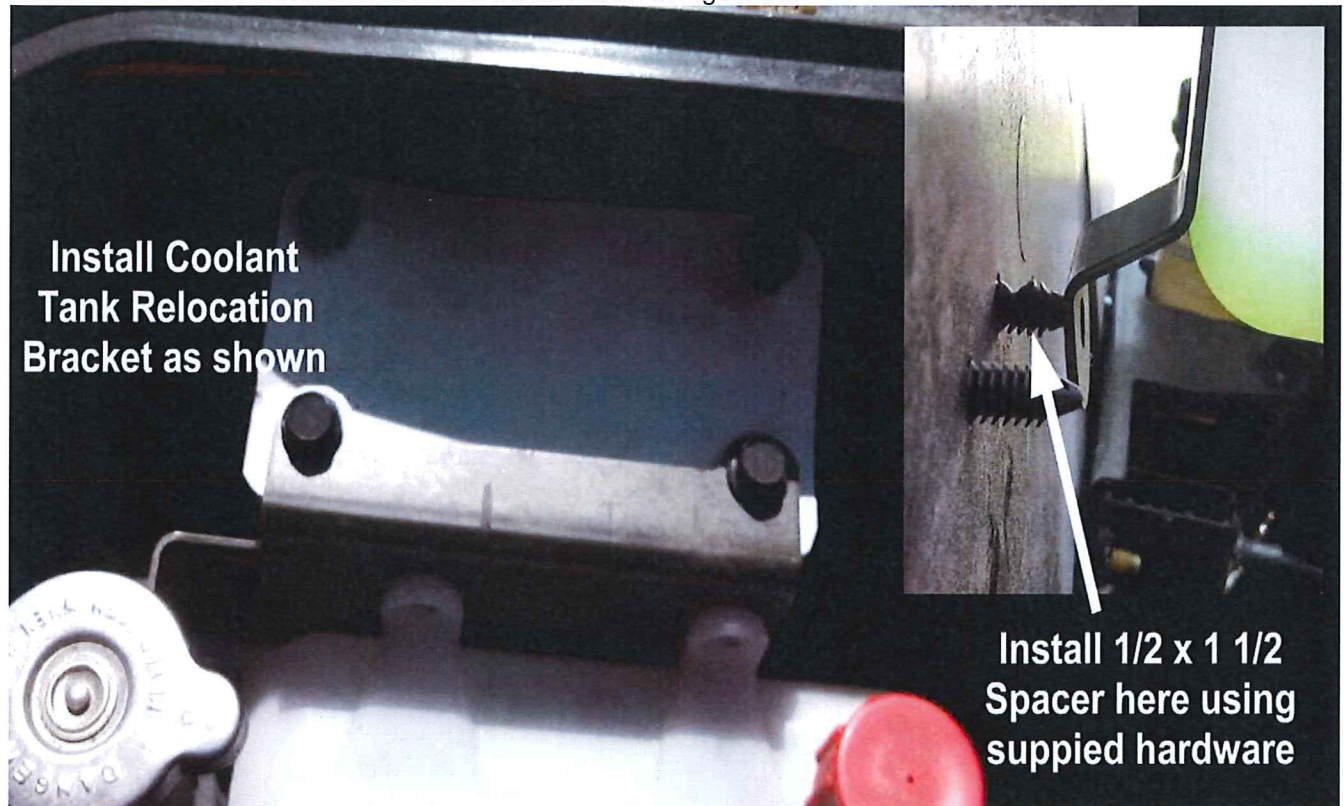

Figure 1a
3. Install the Coolant Tank Relocation Bracket as shown in Figure 1a.
6. Install the $\frac{1}{2}$ " x $1\frac{1}{2}$ " Spacer in the position as shown in Figure 1a.